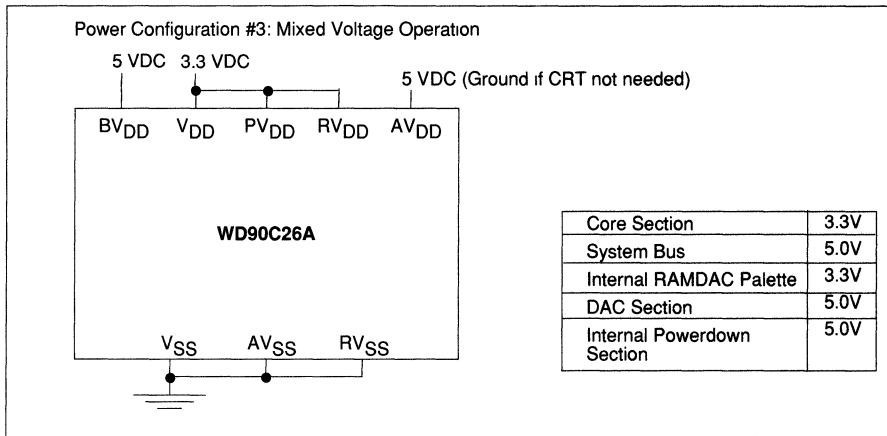

FIGURE 6-5 POWER CONFIGURATION FOR MIXED VOLTAGE OPERATION
- Power Configuration for Mixed Voltage Operation (Figure 6-5)
In Figure 6-5, showing mixed voltage operation, the Powerdown section does not directly interface with any 5.0 VDC logic and is powered by the PV_{DD} pins at 3.3 VDC.